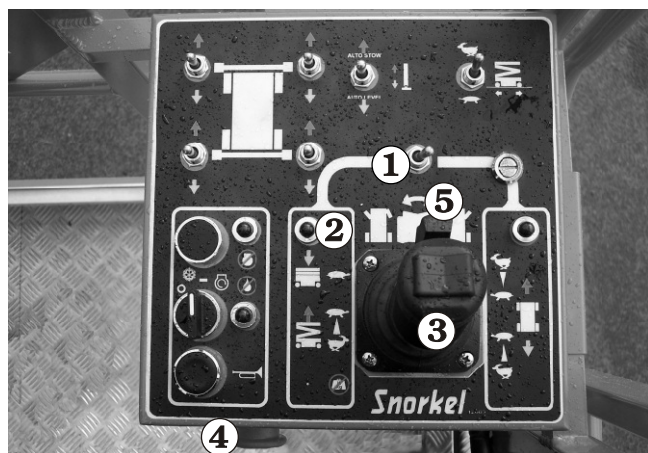

Figure 8.19
2. Set the **Lift/Drive Selector** ① (see Figure 8.19) to lift (left).
3. Squeeze and hold the **Safety Control** ⑤ against the Joystick Controller ③ (see Figure 8.19).
4. Pull the **Joystick Controller** ③ backward to raise the platform, or push it forward to lower it. The further you pull the **Joystick Controller** ③ backward, the faster the platform rises. There is only one down speed.